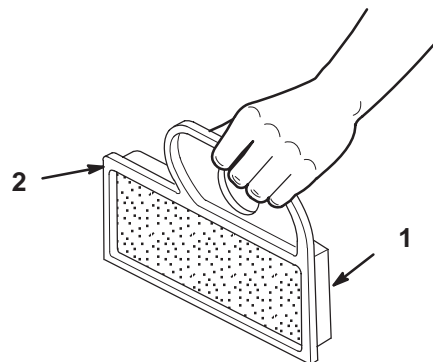

Figure 33
1. Lightly tap the element on a flat surface to remove dust and dirt (Fig. 33).